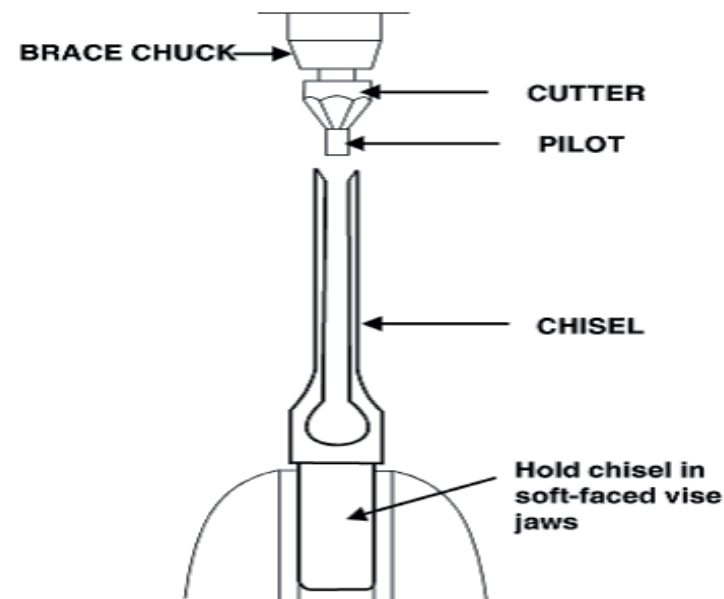

FIGURE 8
2. Sharpen the chisel with a mortise chisel cutter with the correct size pilot. (Pilot size will differ depending on the size of your chisel). Two or three turns of the cutter in a carpenter's brace chuck should be enough to sharpen the chisel, as shown in Figure 8.